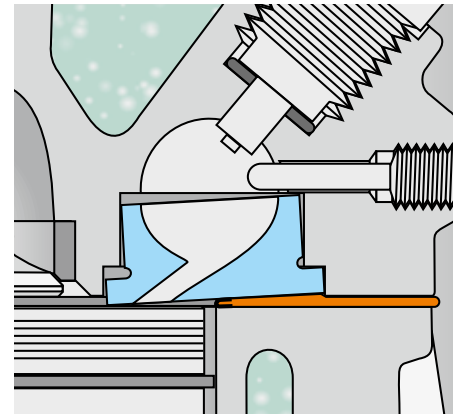

Fig. 3
1. The swirl chamber has set, or did not have the necessary projection on installation. The swirl chamber insert tilts in its seat and collides with the piston. This tilting is compounded by the combustion pressure and overheating of the chamber (poor heat dissipation) (Fig. 3).